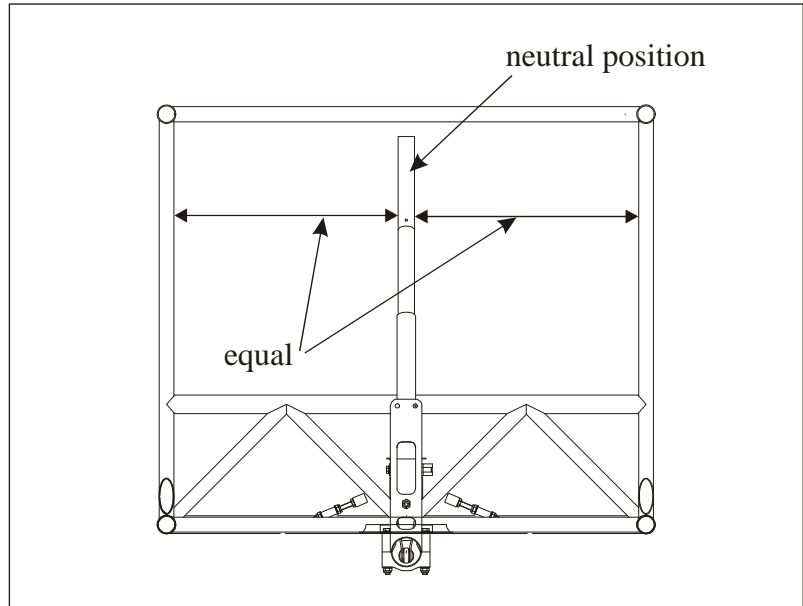

Figure 11 Neutral Position of Control Stick
- 1 Secure the control stick in the neutral position (Figure 11).